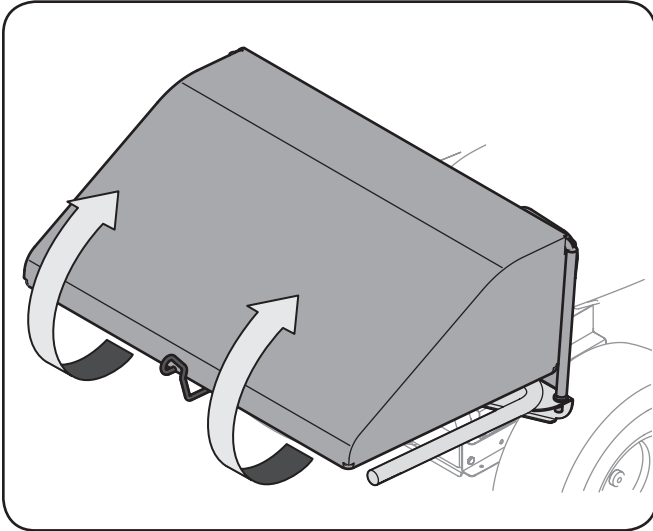

Figure 1
1. Open the grass bag cover by lifting the lower rear of the cover and pivoting it upwards. See Figure 1. It is not necessary to remove the discharge chute in order to empty the grass bags.